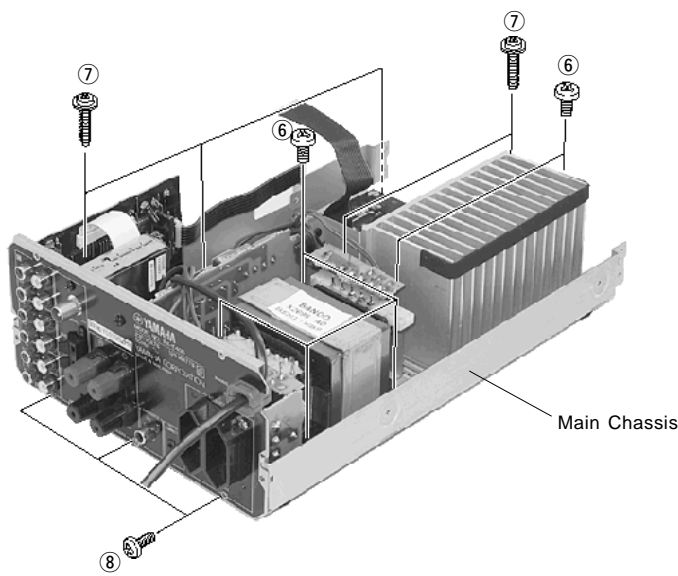

Fig. 3
- b. Remove 6 screws (⑥) in Fig. 3.
- c. Remove 5 screws (⑦) in Fig. 3.
- d. Remove 3 screws (⑧) in Fig. 3.